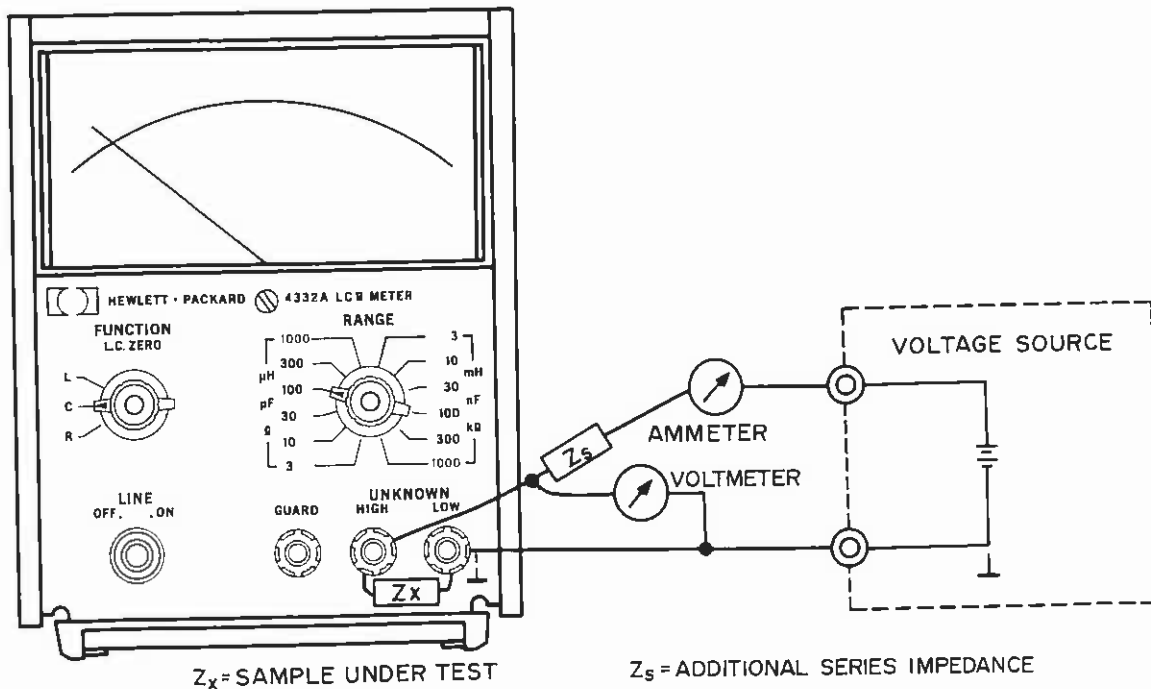

Figure 3-8. Measurement with DC Bias
- Figure 3-8. Measurement with DC Bias
2. The external dc power supply, therefore, should be applied to UNKNOWN HIGH terminal through an output impedance Z_s and an ammeter or a voltmeter for monitoring should be connected as shown in Figure 3-8.